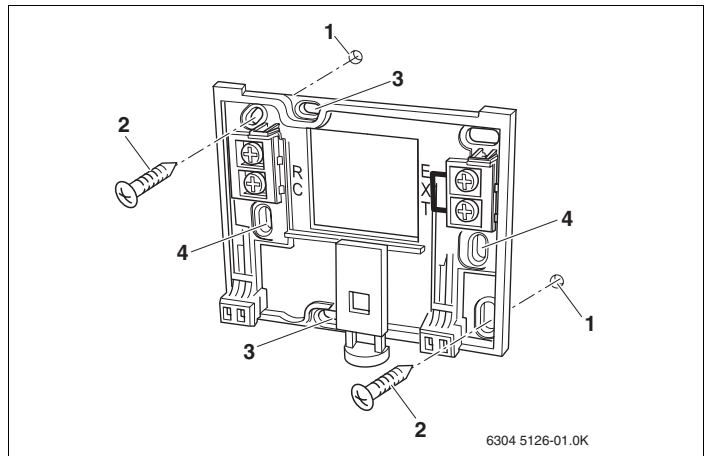

Fig. 3 Fixing the mounting plate to the wall surface
- Drill two holes in the wall at the required position; use the mounting plate as a template (Fig. 3).
- Insert the supplied wall plugs into the drilled holes (Fig. 3, **Item 1**).
- Fix the mounting plate using the screws supplied (Fig. 3, **Item 2**).
When fitting to a flush-mounted box, use the vertical or horizontal fixing holes (Fig. 3, **Item 3** or **Item 4**).